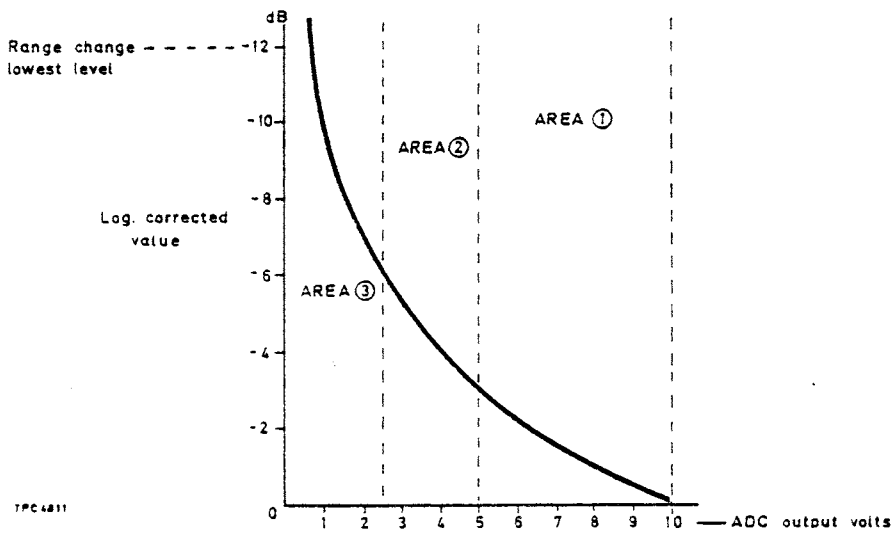

Fig. 14 Log data PROM Range/Resolution (AC11)
146. Consider the memory map shown in Fig. 14, in the area (1), due to the high resolution data at adjacent points would be almost identical. Because of this only the most significant 10-bits of the ADC's output data are used. Address lines A2-A10 are routed via Range/Resolution Shift 1 'B' inputs and then IC14-IC16 'A' inputs to the EPROM IC18/IC19. Address line AD11 controls IC4-IC6 (via IC10c), AD10 and AD11 lines together control IC14-IC16 (via IC10a) and IC18, IC19 (via IC10a, IC10b) to give an EPROM address once every four ADC counts.